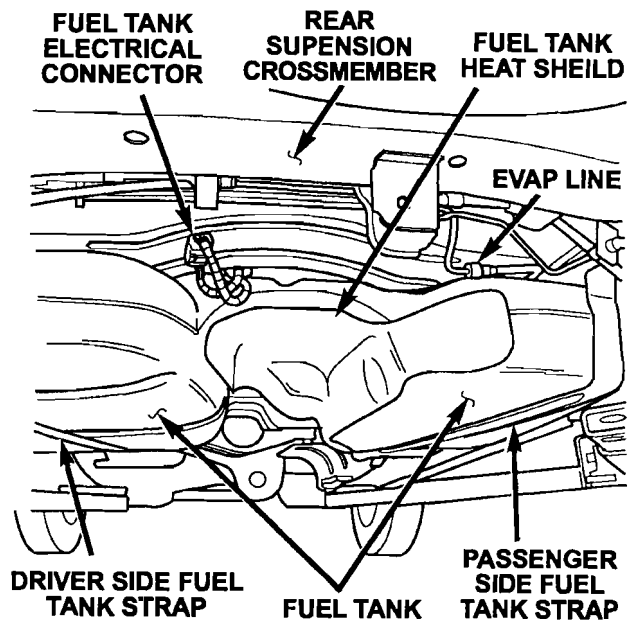

Figure 3
h. Disconnect the fuel tank electrical connector located at the rear of the tank (Figure 3).
29. Connect the fuel tank electrical connector located at the rear of the tank (Figure 3).